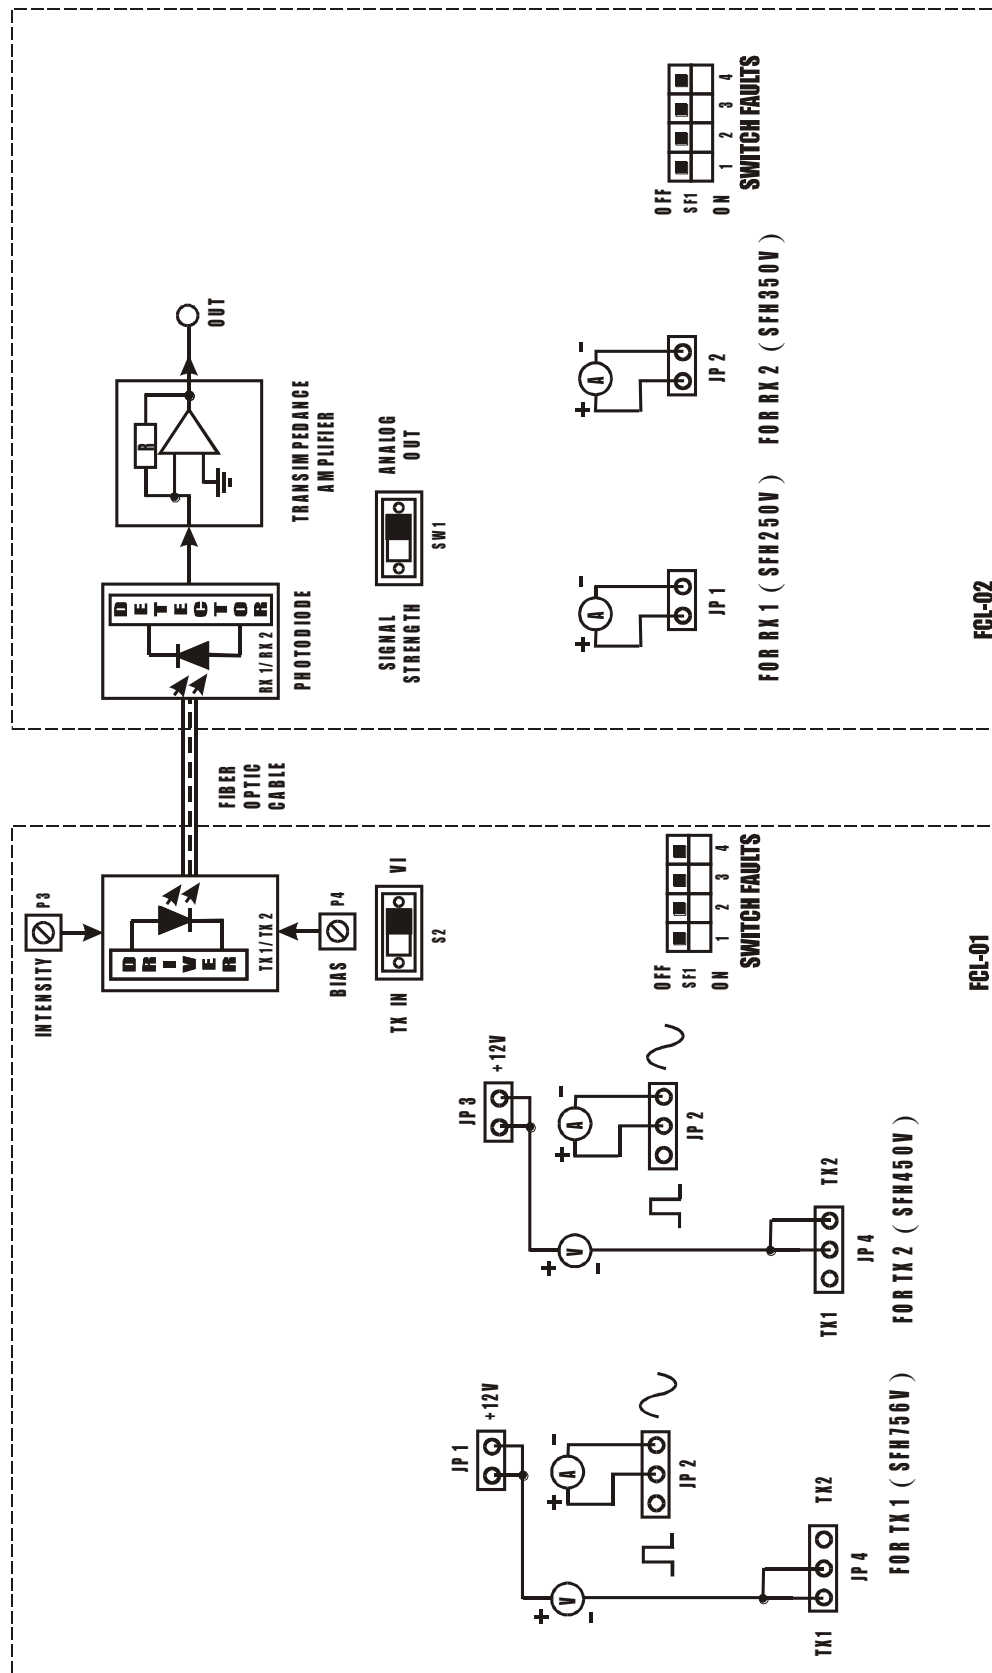

FIG. 14.1 BLOCK DIAGRAM FOR CHARACTERISTICS OF FIBER OPTIC LED'S AND DETECTORS
- Make connections as shown in fig.14.1. Connect the power supply with proper polarity to FCL-01 & FCL-02 Kits. While connecting this, ensure that the power supply is OFF.
- Keep the jumpers **JP1**, **JP2**, **JP3** & **JP4** on FCL-01 as shown in fig.14.1.
- Keep the jumpers **JP1** & **JP2** on FCL-02 as shown in fig.14.1.
- Connect voltmeter and current meter as per the polarities shown in fig.14.1.